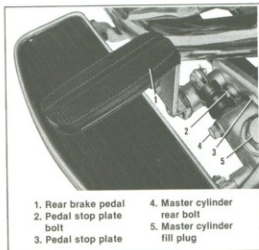

Figure 2-41. Adjusting Rear Brake Pedal — FL 1978 and Early 1979
2. **1978 1/2 - Early 1979** — See Figure 2-41. Loosen the master cylinder rear bolt (4) and brake pedal stop plate bolt (2). Move front end of plate (3) down to decrease free play or up to increase free play.